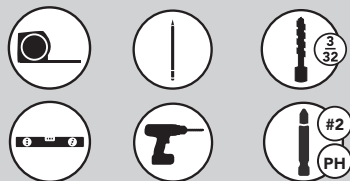

FIGURE 3.1
**NOTE: If rear cabinet wall is less than 1/2" thick, the use of a furring strip may be necessary (See Fig 3.1).**